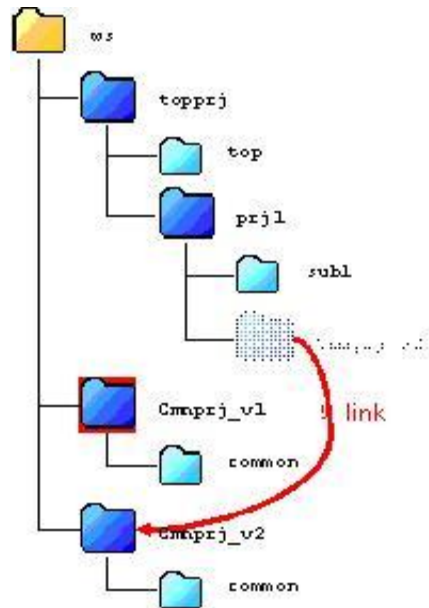

Figure 4-14 Example of version management
- In workspace build a project that stores the project for which version management needs to be done, and link will be attached (Only ASIC, Figure 4-14) to project of version that needs to be referred.